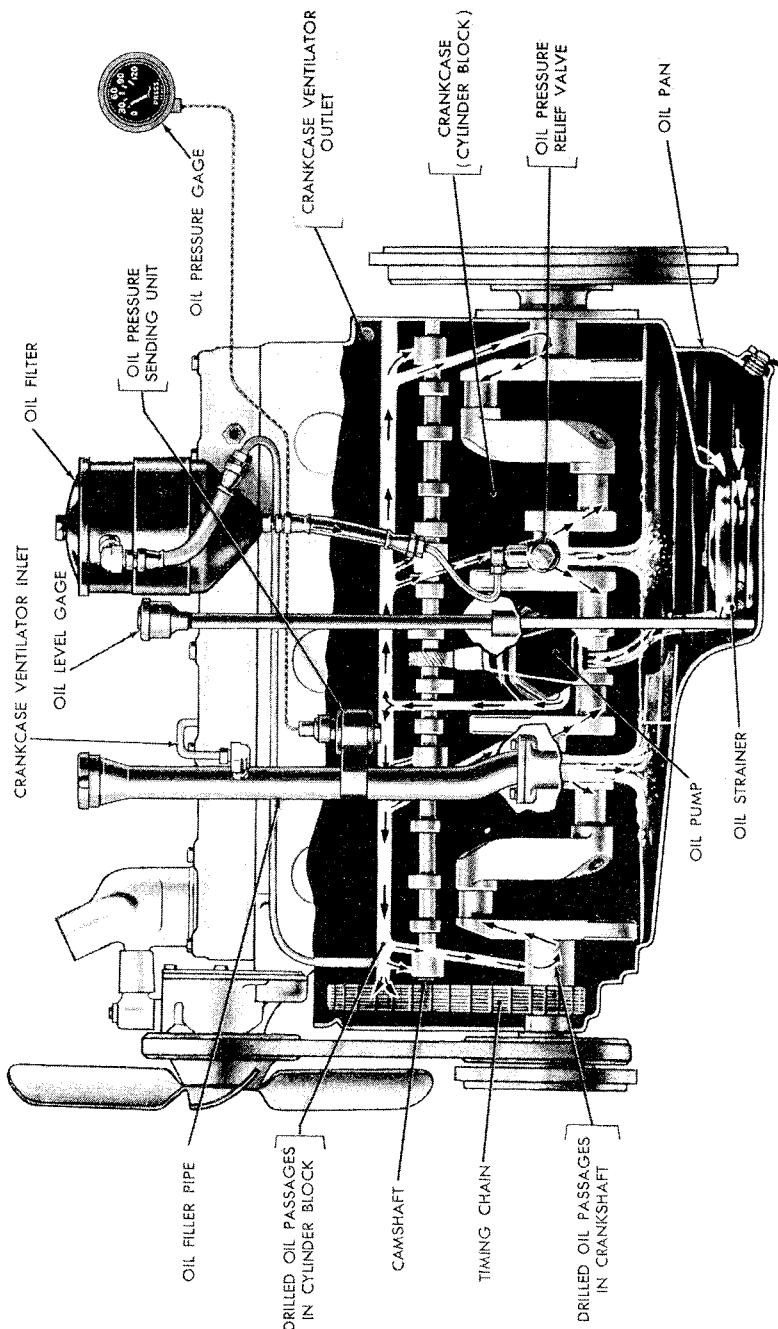

Figure 7. Engine oiling system.
a. *Engine Oiling System* (fig. 7). The engine is lubricated by oil drawn from the oil pan by a rotor type oil pump and forced under pressure through drilled passages in the cylinder block to the crankshaft and camshaft bearings. Passages, drilled in the crankshaft, allow oil to be forced through the crankshaft bearings and to the connecting rod bearings. A limited amount of oil is forced from the camshaft front bearing to the timing chain case to lubricate the timing chain and sprockets. Cylinder walls, pistons, piston pins, and valve tappets are lubricated by oil spray from the connecting rod bearings. The camshaft thrust plate is lubricated through an oil passage in the camshaft.
b. *Oil Filter* (fig. 7). The engine is provided with an oil filter which has a replaceable element. This element should be replaced periodically, as prescribed, or more often, if there is dirt or sludge on the filtering element or in the engine oil.
c. *Oil Pressure Gage* (fig. 7). An oil pressure gage mounted on the instrument panel and calibrated in pounds per square inch, is provided to indicate whether the lubrication system is operating properly. The gage should register 15 psi or higher at idling speeds, and approximately 50 psi at higher speeds. The gage operates by electricity. The sending unit is mounted on the left side of the cylinder block.
d. *Oil Pressure Relief Valve* (fig. 7). Engine oil pressure is controlled by a relief valve mounted on the left side of the engine below the starter and consists of a plunger type valve, spring, gasket, and plug. The relief valve spring controls the maximum oil pressure to 50 psi and circulation through the oil filter starts at approximately 46 psi if the temperature of the oil is above 135° F. The design of the oil relief valve shuts off circulation to the oil filter at low pressure and permits circulation through the filter slightly before the valve
e. Oil Strainer (fig. 7). A floating type oil strainer, located at the lowest point in the oil pan, is attached to the oil pump suction pipe. The strainer is pivoted so that it is free to float near the top of the oil level. Due to the pivoting action of the strainer, clean oil is drawn from the top of the oil level, while sediment or other foreign particles settle to the bottom of the oil pan.
a. Oil Pan (fig. 7). The oil pan is attached to the bottom flange of the cylinder block by cap screws. Gaskets are used at the front and rear of the oil pan and between the mating surfaces of the oil pan and the cylinder block. This prevents oil leakage and also possible entry of dirt or foreign matter into the crankcase.
b. Oil Level Gage (fig. 7). A bayonet type oil level gage is located on the left side of the cylinder block and provides a means of determining the amount of oil in the crankcase. The oil level should be checked at frequent intervals. In order to obtain a proper reading, the gage should be withdrawn, wiped off, reinserted carefully, and again withdrawn. A correct reading cannot be obtained if the gage is withdrawn while the engine is running, nor immediately after the engine is stopped, as sufficient time must be allowed for the oil in the various parts of the engine to drain down into the oil pan.
c. Capacity of Oil Pan. The capacity of the engine lubricating system is 5 quarts (refill) or 6 quarts if the oil filter has been drained or replaced. The oil pan is filled through the oil filler pipe (fig. 7); located at the left front side of the cylinder block.
d. Crankcase Ventilator. A crankcase ventilating system is provided to remove harmful fumes from the crankcase and to prevent condensation of the vapors resulting from combustion. Fresh air for the ventilating system enters the crankcase through a tube attached to the carburetor air cleaner elbow and extending to the oil filler pipe. Another tube, attached to the crankcase ventilator outlet (fig. 7) and extending to the intake manifold (at which point a one way check valve is located) completes the ventilation circuit. The controlled suction from the intake manifold causes the air to circulate through the crankcase from the air cleaner and thus remove the undesirable vapors.